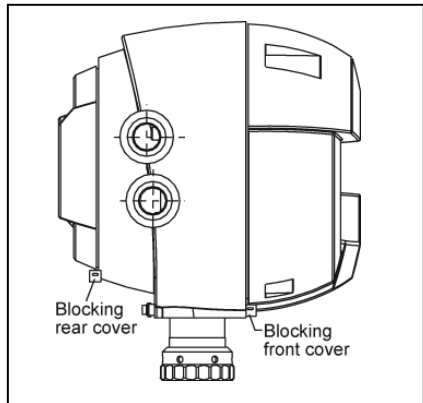

Figure 1 Blocking / sealing facilities
*Before opening the covers of the SmartRadar ATi, make sure that the blocking devices are removed (figure 1).*
*Use Allen key 3 mm.*